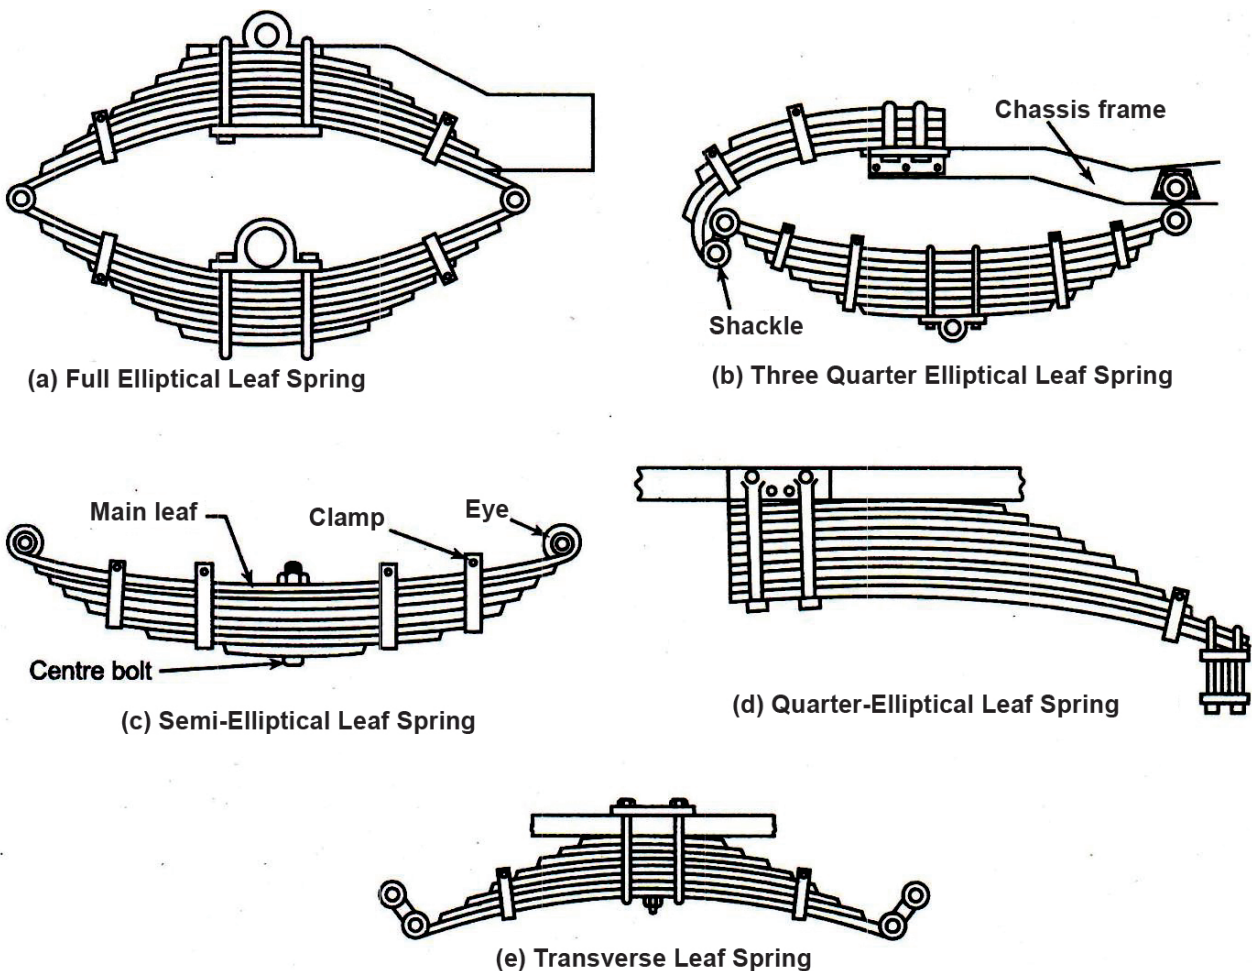

Fig.5.2.8: Different types of Leaf Springs.
- a. **Full elliptical leaf spring:** This type of leaf spring refers to two semi-elliptical springs connected at their ends, to form the shape of an ellipse as shown in Fig. 5.2.8(a).
- b. **Three quarter elliptical leaf spring:** This type of leaf spring refers to one semi-elliptical spring connected over a quarter elliptical springs as shown in Fig.5.2.8(b).
ellipse as shown in Fig.5.2.8(c). It is most commonly used in all types of heavy vehicles.
- d. **Quarter elliptical leaf springs:** This type of leaf spring refers to forming the shape of half of semi-elliptical spring as shown in Fig.5.2.8(d). This type of system is also called as cantilever spring system, the thick end of which is bolted rigidly to the frame.
- e. **Transverse leaf Spring:** This type of leaf spring refers to a semi elliptical spring mounted in a inverted manner, and has saddle at above forming a bow and is attached parallel to the wheel axle as shown in Fig.5.2.8(e).